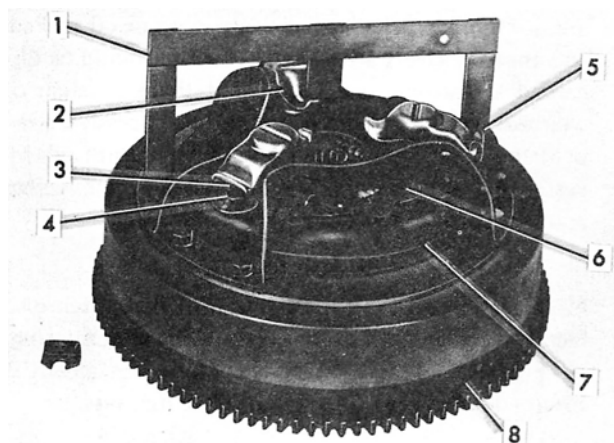

Figure 2
2. Remove the retainer clips which are located over each of the adjuster screws, Figure 2.